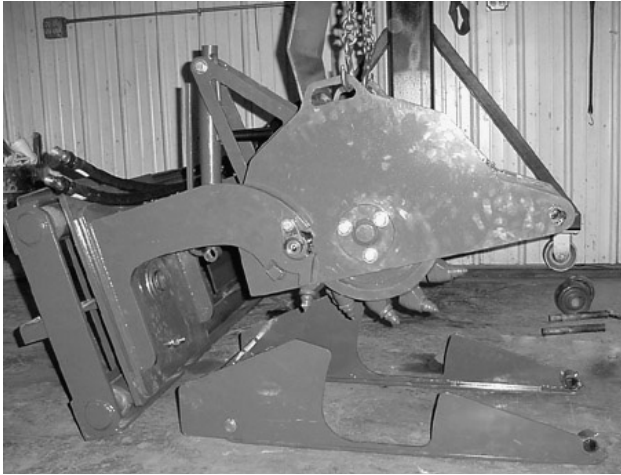

Figure 29.
11. Raise the chassis to provide sufficient clearance. Slide the depth skid under the chassis as shown in Figure 29.